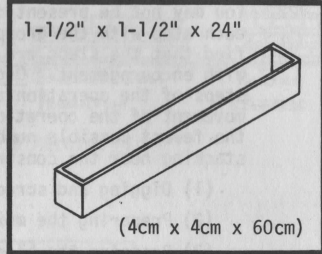

Fig. 3 - Box for Box Test.
- (1) Take a handful of dry, screened earth and moisten it until it is damp enough to form a ball when squeezed in the hand, but not so damp that it will leave more than a slight trace of water on the palm.
- (2) Drop the ball from a height of about three feet onto hard ground. If the ball breaks into a few smaller pieces, the packing quality is good to fair. If it disintegrates, the quality is poor.
18. Box Test The box test is a guide to the proper soil-cement ratio. It measures the shrinkage of soil which contains no stabilizer. The box should have these inside measurements: 24" x 1-1/2" x 1-1/2" (4cm x 4cm x 60 cm) (see Fig. 3).